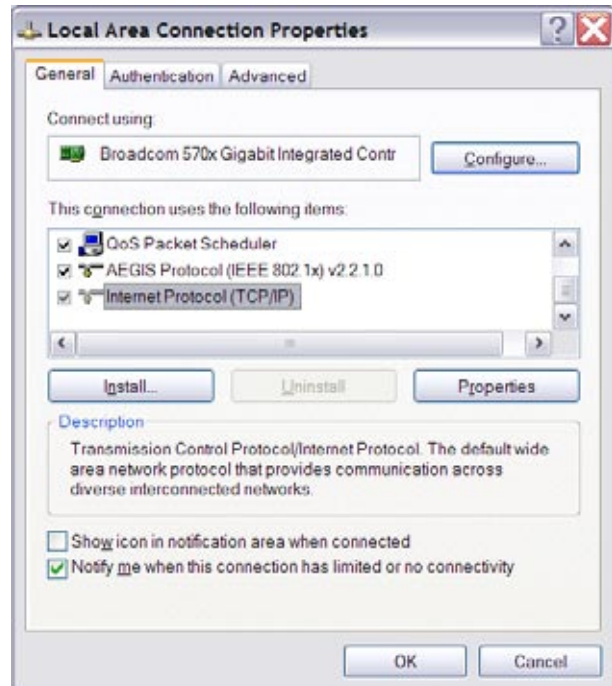

Figure 4.2
2. Select "Local Area Connection". Select "Properties" from the File menu or by right-clicking on the selected icon. In the pop-up window, select (highlight) "Internet Protocol (TCP/IP)". Click on the "Properties" button to view TCP/IP Properties (Figure 4.2).